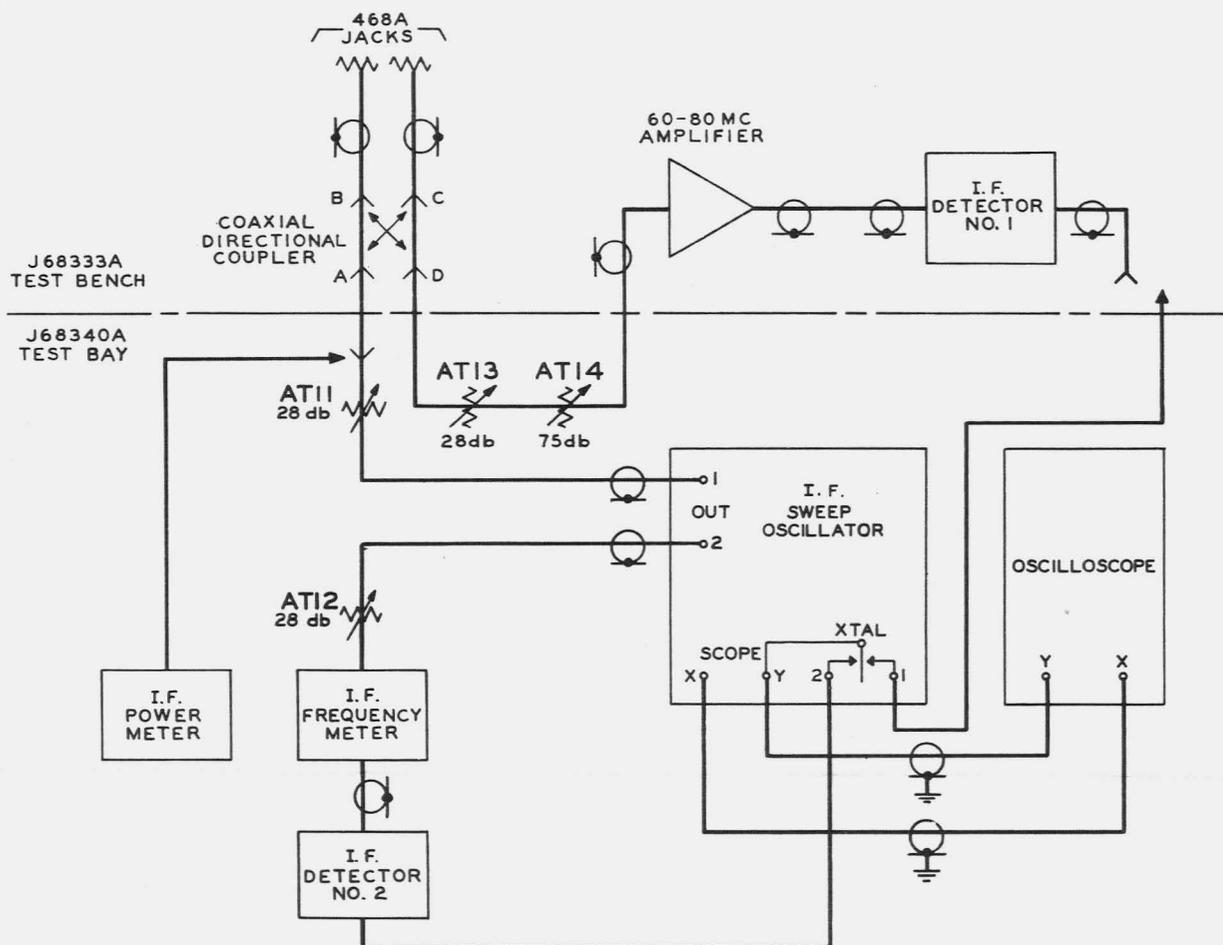

Fig. 15 - Arrangement of IF Test for Calibration
(2) Connect the IF test equipment as shown in Fig. 15